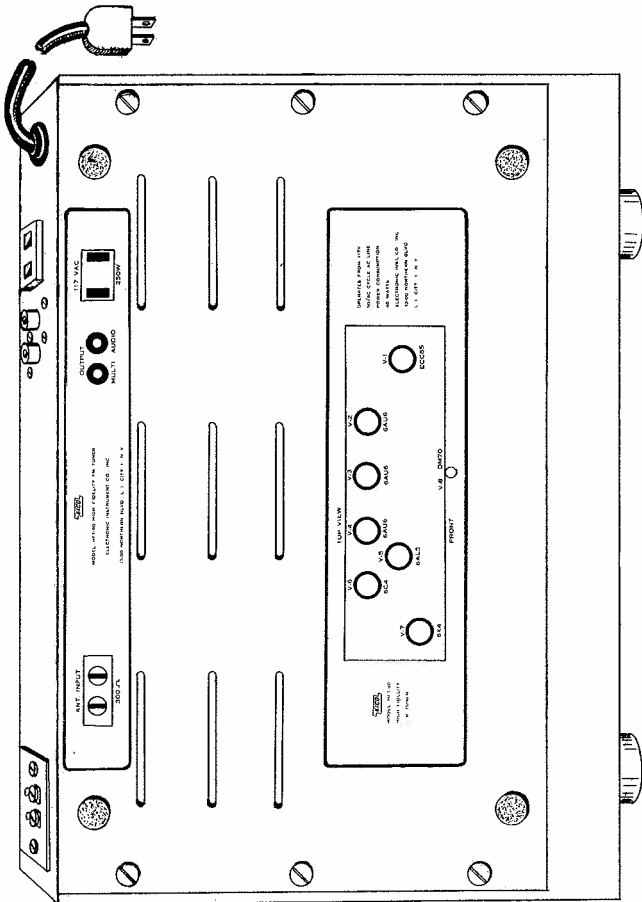

Fig. 11
13. () Fig. 11. Remove the backings from the two labels supplied and place them on the outside surface of the bottom plate as shown.